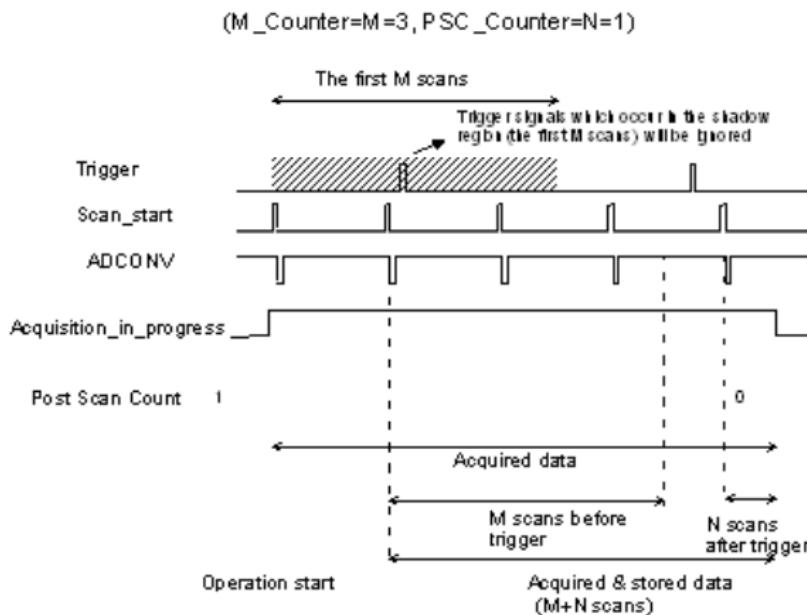
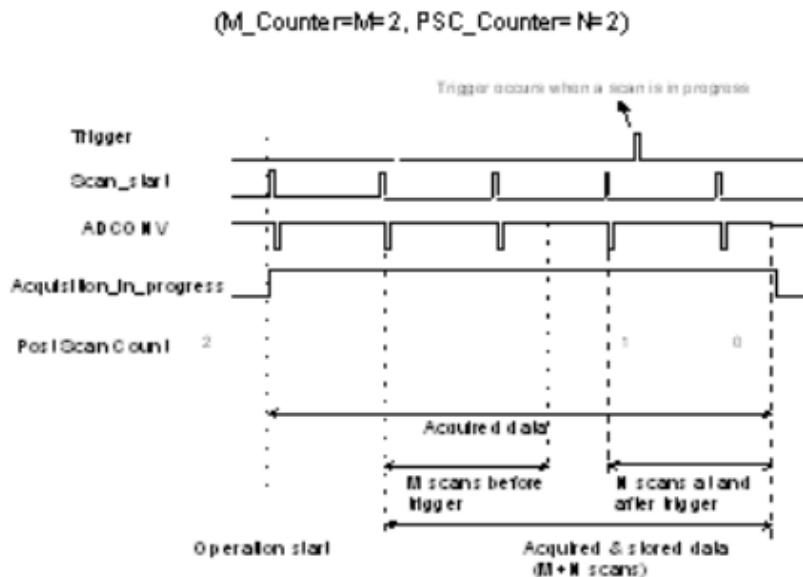

Figure 3-14: Middle trigger with M_enable = 1
Figure 3-15: Middle trigger (trigger occurs when a scan is in progress)
Use middle-trigger acquisition in applications where you want to collect data before and after a trigger event. The number of scans (M) stored before the trigger is specified in M_counter, while the number of scans (N) after the trigger is specified in PSC_counter. Like pre-trigger mode, the number of stored data could be less than the specified amount of data (M+N), if an external trigger occurs before M scans of data are converted. The M_enable bit in middle-trigger mode takes the same effect as in pre-trigger mode. If M_enable is set to 1, the trigger signal will be ignored until the first M scans of data are converted, and it assures the user with (M+N) scans of data under middle-trigger mode. However, if M_enable is set to 0, the trigger signal will be accepted at any time. Figure 3-14 shows the acquisition timing with M_enable=1.
If the trigger event occurs when a scan is in progress, the stored N scans of data would include this scan, as illustrated in Figure 3-15.
M_counter defined in Middle-Trigger is different from that of Pre-Trigger. In Middle-trigger, M_Counter ends counting before the trigger event while in Pre-Trigger, M_Counter ends counting right at or before a trigger event. Refer to Figure 3-14 and Figure 3-15.